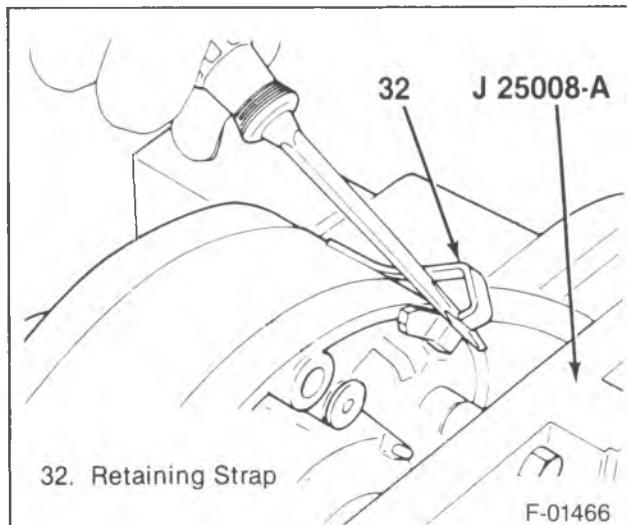

Figure 23—Releasing the Shell Retaining Strap
3. Shell retainer strap (32) (figure 23).